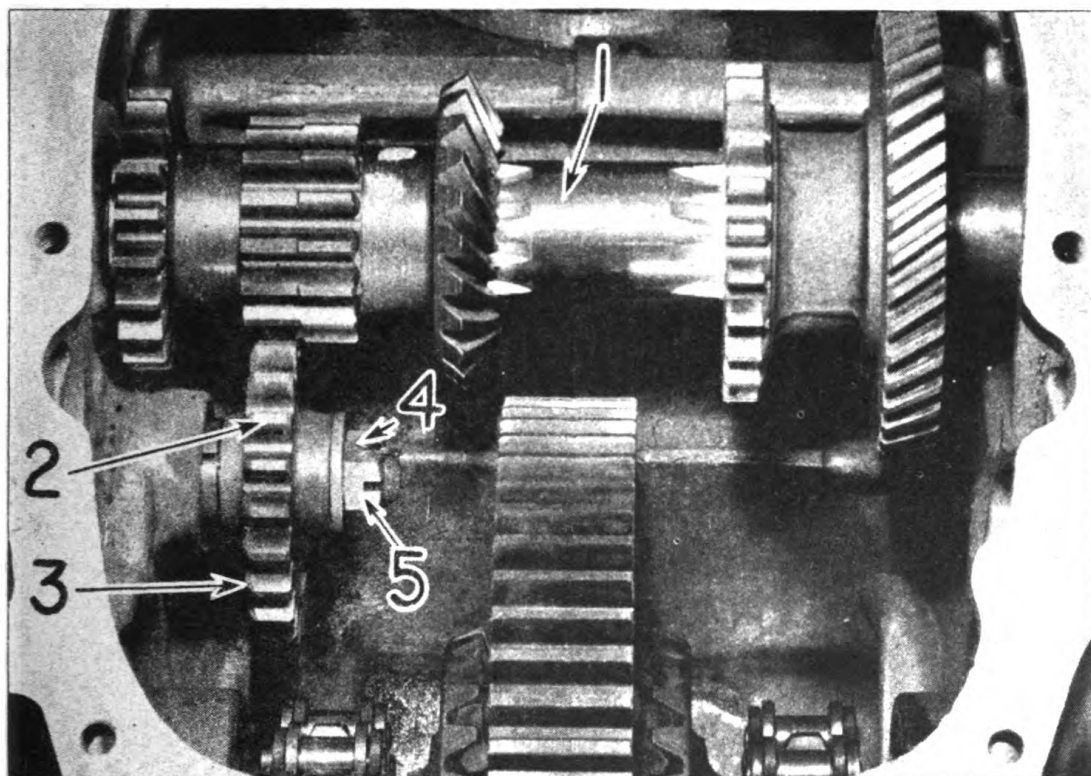
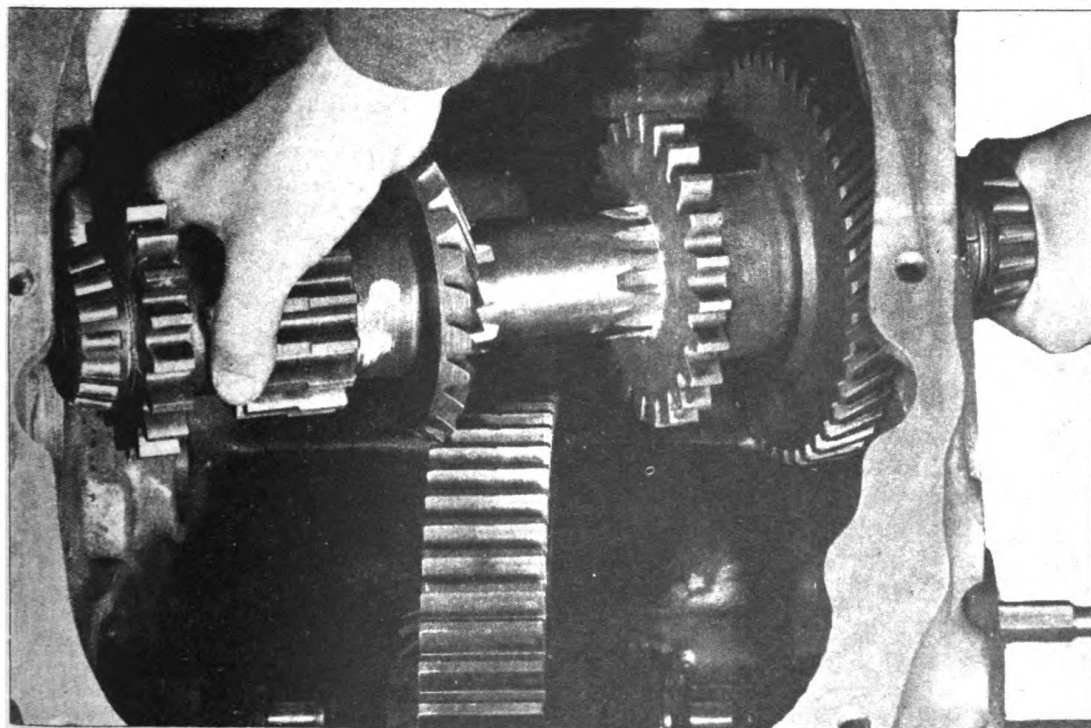

Fig. 79. First Reduction Shaft and Reverse Idler Gear
Fig. 80. Removing First Reduction Shaft Complete with Gears and Bearings
Take off both bearing carriers keeping the shims as removed with each carrier. Remove the reverse idler gear No. 2 Fig. 79 by taking out the cotter pin (4) and hexagon nut (5). Next take out the two cap screws on the left-hand side of the transmission case below the shaft bearing and remove reverse gear stud. Push the first reduction shaft to the right as far as it will go; take hold of the left-hand end of the shaft and withdraw it up through the top of the transmission case Fig. 80.
Drain all the oil from the transmission and take off the rear transmission cover. Remove the drive chains by taking out the master link in each one. Remove differential bearing carriers from each side by removing four cap screws using care to keep shims with the proper carrier. Tip the differential slightly and remove the bevel gear and sprocket No. 1 Fig. 79. Remove the assembly through the top of the case.
When replacing differential, put the bevel gear and sprocket in place in the transmission case before putting differential in place. See Fig. 79.
By studying Fig. 80 you will see that rear axle bearings must be adjusted at the outer end.